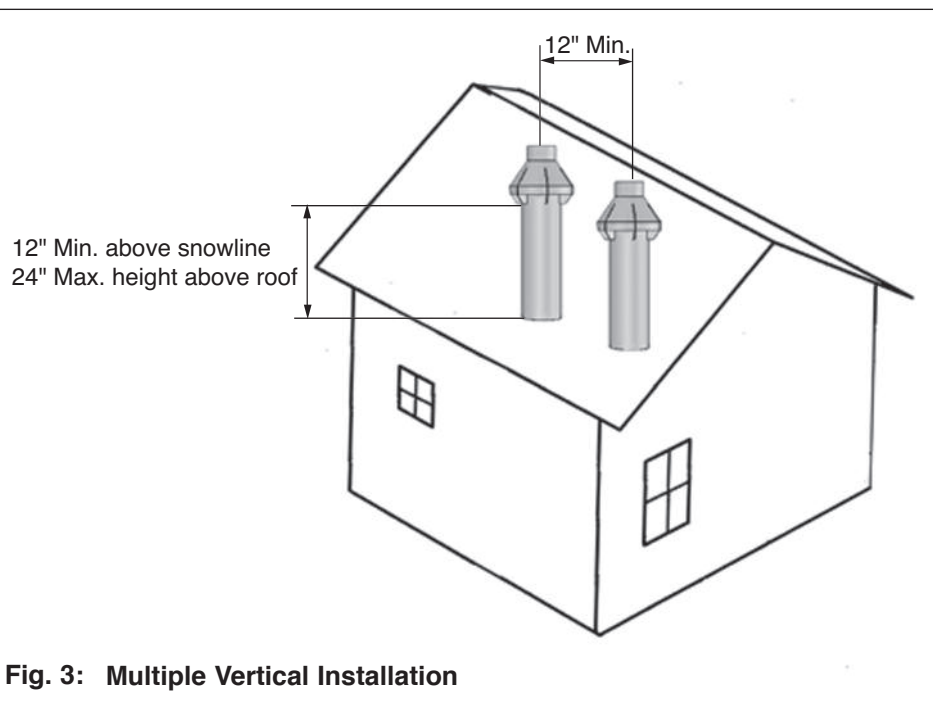

Fig. 3: Multiple Vertical Installation
2. The roof penetration of the termination assemblies should be such that the vent outlet is a minimum 12 inches between centerlines from the adjacent termination assembly of the other boiler for installations in the U.S. as shown in Fig. 3. For installations in Canada, provide clearances as required by CSA B149.1 or 149.2.